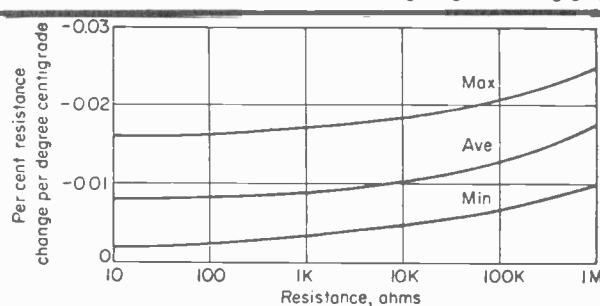

Fig. 4. Typical temperature-coefficient spread for boron-carbon resistors.
-400 ppm/°C for values over 100k. The variation of TC with resistance value and the spread that might be expected is illustrated in Figure 4.